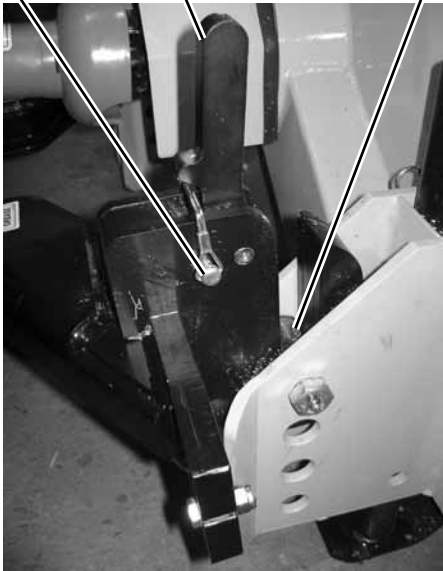

Figure 8
- 7. Pull safety pin out of each hitch clamp. Pull hitch clamp levers forward to unlock. Insert safety pins to secure clamps (Figure 8).
- 9. Pull safety pin out of each hitch clamp. Push hitch clamp levers backward to lock. Insert safety pins to secure clamps (Figure 8).